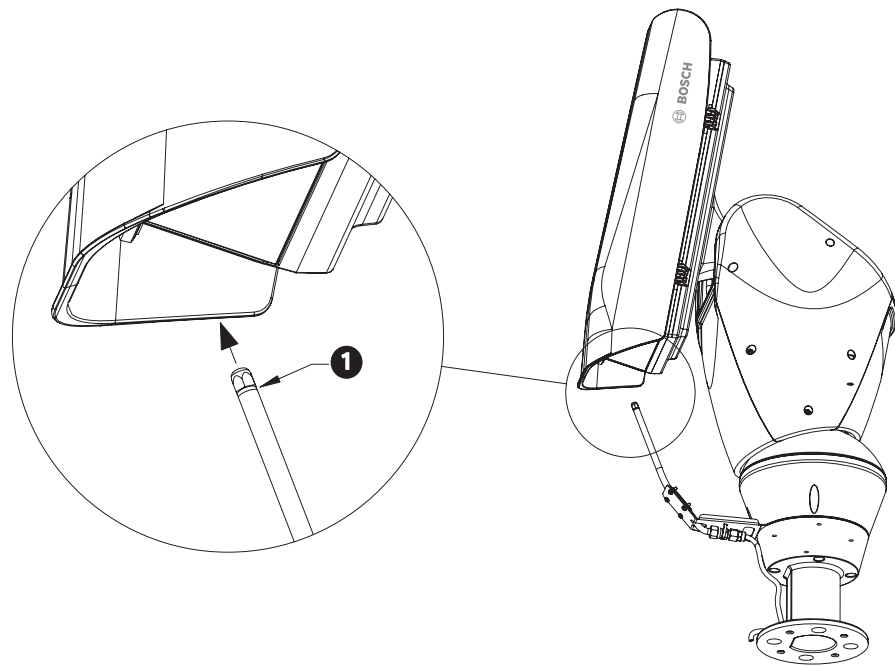

Fig. 5.3 Calibrating the Nozzle
10. Calibrate the jet (see *Figure 5.3*) by directing the nozzle towards the glass of the housing.